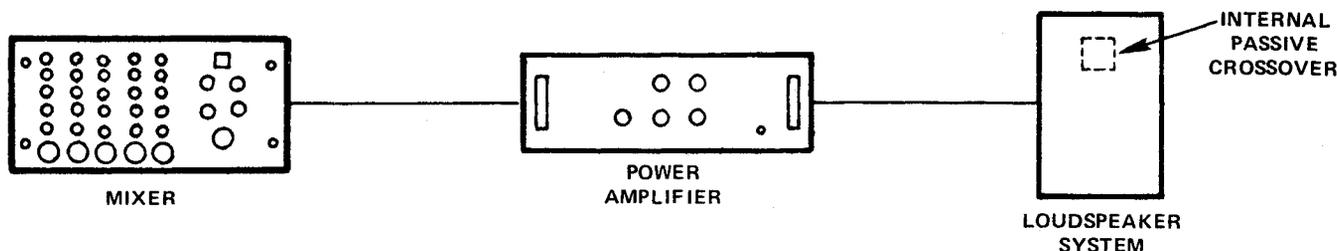

FIGURE 2 – Depiction of Passive Crossover
**"Passive" Crossovers.** A "passive" (or "high-level") crossover is what you would probably find in most multi-way speaker systems (such as P.A. and hi-fi systems). These "high-level" crossovers are made up of capacitors, inductors and resistors. The circuit requires no auxiliary power to operate (such as 120 volts ac) which makes it "passive." Because these crossovers are usually inside the speaker system, they must handle the high power levels delivered by the power amplifier (thus the name "high level"). See Figure 2 for a depiction of a simple high-level crossover.
To illustrate the difference between conventional and bi-amped operation, let's start with a conventional two-way speaker system with high-level crossover and one channel of a power amp. (You don't necessarily have to do the following, just read about how it works.) With the system connected as shown in Figure 2, send a low-frequency tone through the system. Note C below middle C on a piano will do nicely. It is about 126 Hz. Turn the level up until the amp clips. (It will sound just terrible!)